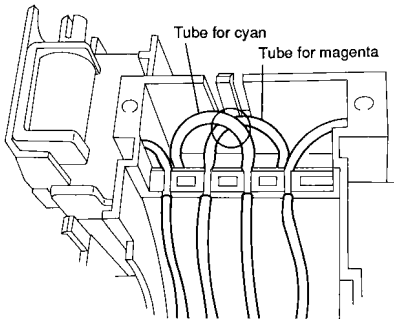

Figure 4-325
- Make sure the tubes for cyan and magenta are placed as indicated in Figure 4-325.